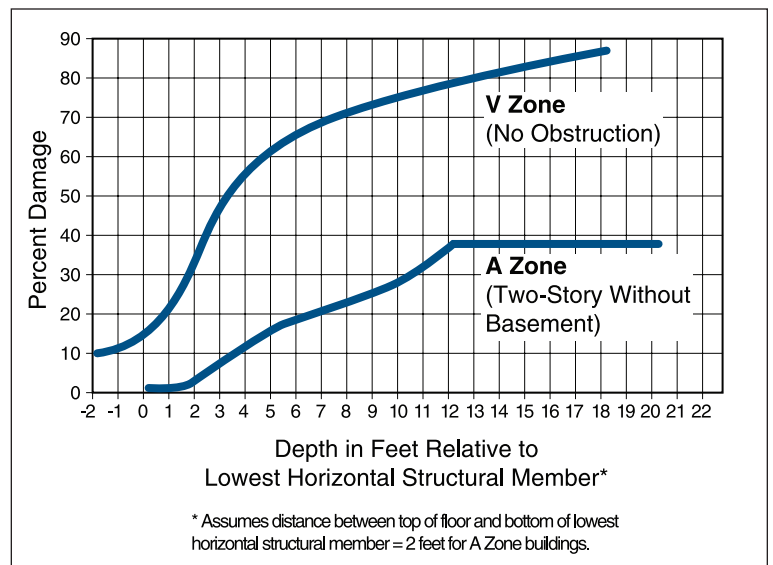

Figure 4. Flood depth versus building damage curves for V Zones and riverine A Zones (Source: FEMA 55, Coastal Construction Manual).
- Flood damage increases rapidly once the elevation of the flood extends above the lowest floor of a building, especially in areas subject to coastal waves. In a V Zone, a coastal flood with a wave crest 3 to 4 feet above the bottom of the floor beam (approximately 1 to 2 feet above the walking surface of the floor) will be sufficient to substantially damage or destroy most light-framed residential and commercial construction (see Figure 4).
This is especially true in cases where waves accompany coastal flooding. Figure 4 illustrates the expected flood damage (expressed as a percent of a building's pre-damage market value) versus flood depth above the bottom of the lowest
In cases where buildings are situated behind levees, a levee failure can result in rapid flooding of the area. Buildings near a levee breach may be exposed to high velocity flows, and damages to those buildings will likely be characterized by the V Zone damage curve in Figure 4. Damages to buildings farther away from the breach will be a result of inundation by floodwaters, and will likely resemble the A Zone curve in Figure 4.